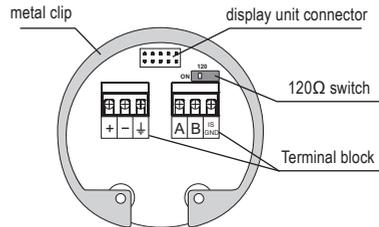

Fig. 19: Inside view of screw terminals of the level meter with Modbus ULM-70_--_M
2. Now it is shown the item "TEACHING". By pressing set the value "LEVEL DISTANCE" (distance to the level) – supposed distance from the face of the sensor to the medium level. If the distance to the level is not precisely known, enter a value rather lower (in the tolerance field as shown in Fig. 19).